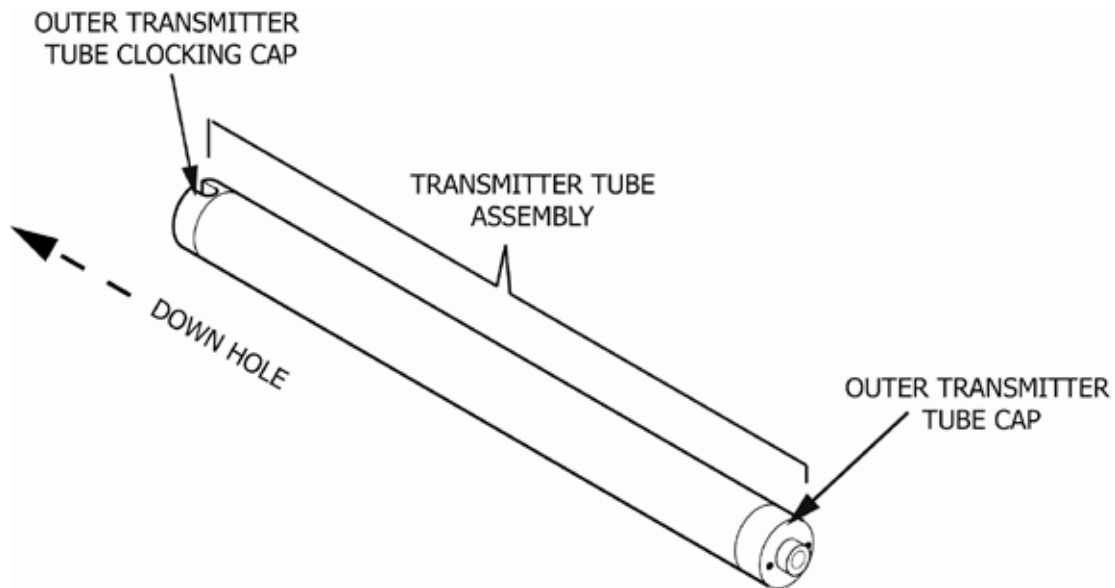

Fig. 18
2. Unscrew the outer transmitter tube clocking cap from the outer transmitter tube, then slide out all components, as shown in the illustration (Fig 18 and 19).